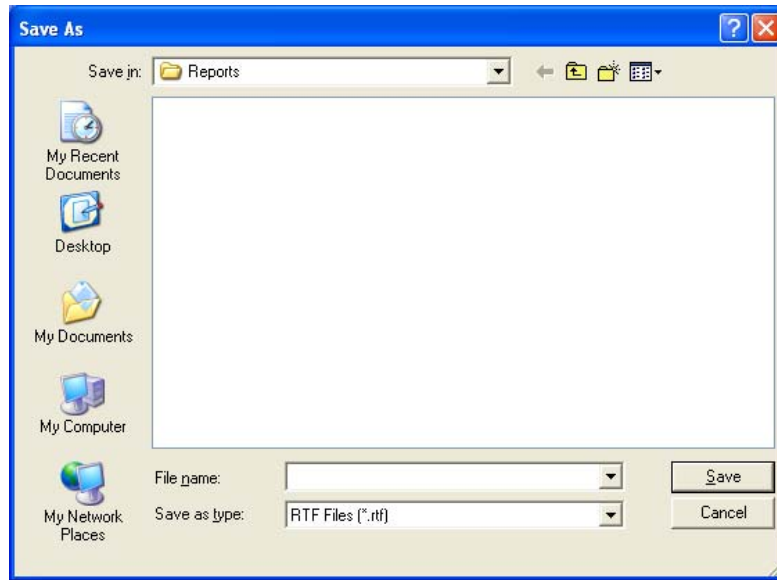

Figure 11-8
5. To save the report on your screen to another file, click the  button or press *Alt+S*. The Save As screen appears as shown in Figure 11-8.